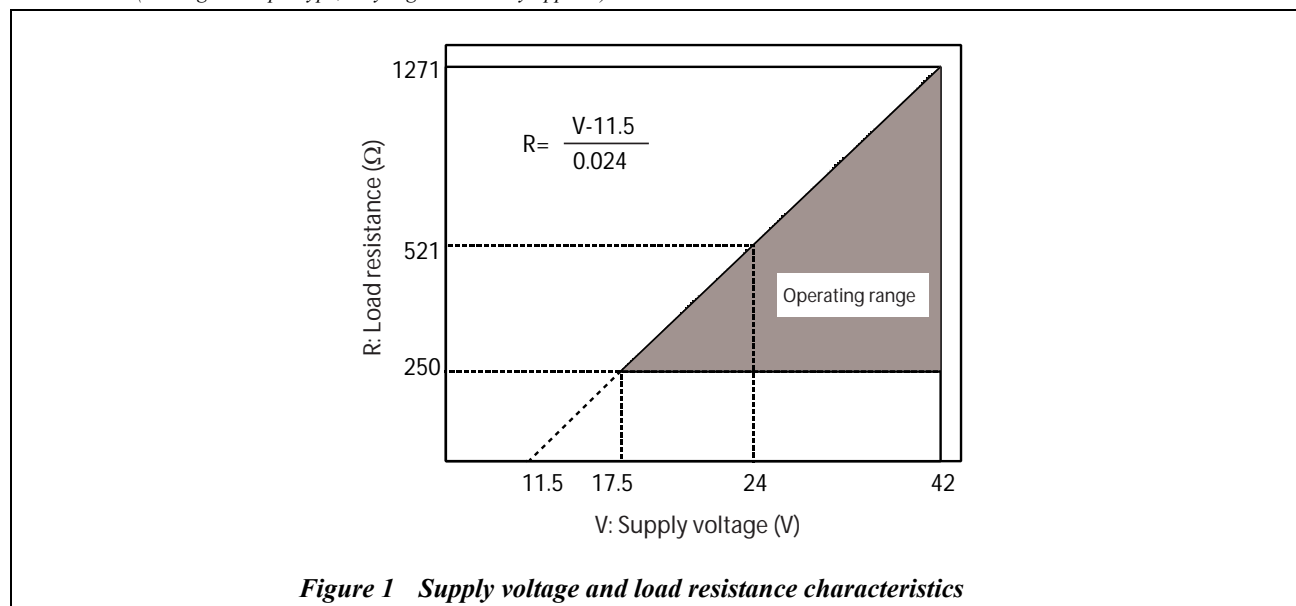

Figure 1 Supply voltage and load resistance characteristics
17.5 to 42V DC/250 to 1271 Ω (For details, refer to Figure 1)